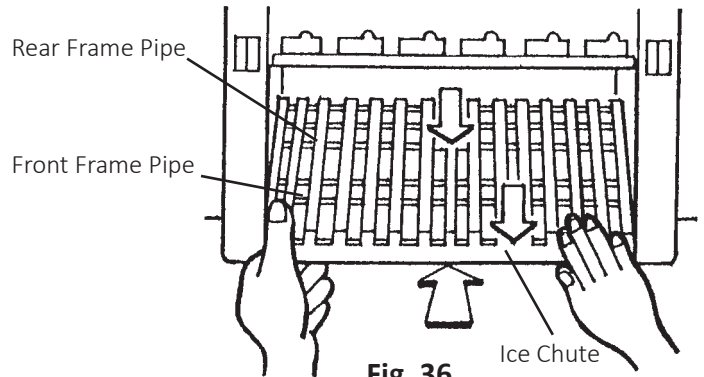

Fig. 36
- 13) Position and lock the ice chute onto the front and rear frame pipes by pushing the ice chute down until it clicks onto both frame pipes. See Fig. 36.